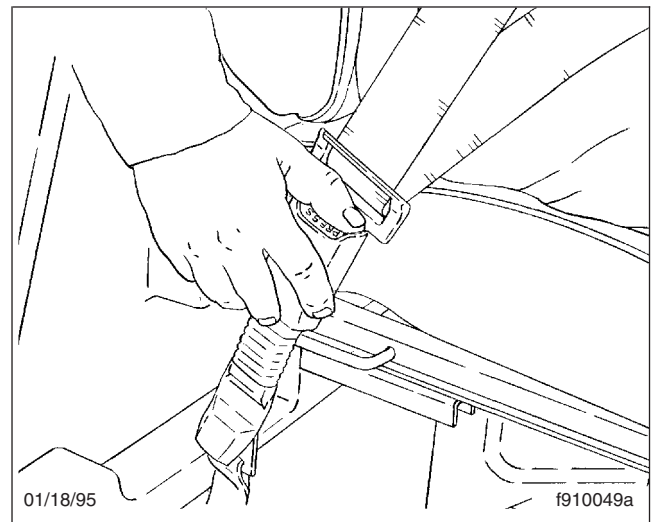

Fig. 5.12, Releasing the Three-Point Seat Belt
- To unbuckle the three-point seat belt, push the button on the buckle as shown in **Fig. 5.12**. If the Komfort Latch was used, release it by giving the shoulder belt a quick tug. If you lean forward against the shoulder belt, the Komfort Latch will automatically release, and will need to be reset.
6. To unbuckle the three-point seat belt, press the release button on the buckle; see Fig. 5.12.